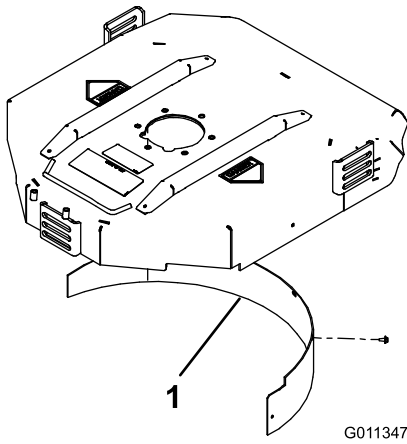

Figure 11
2. Install the mulching baffle in the rear opening and secure it with 5 flange head bolts (Figure 11).